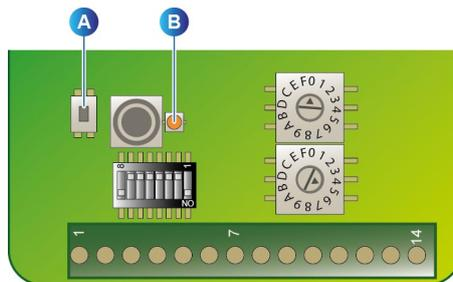

Figure 53: *OLCT 80* wireless card.
4. On the **OLCT 80 wireless** card (see Figure 53: *OLCT 80* wireless card).press three times fast on the coupling button marked "A" in the figure.
In normal operating mode, the LED (Figure 53, B) of the *OLCT 80* 's wireless card blinks orange, while the LED (Figure 52, F) of the *master* receiver blinks red.